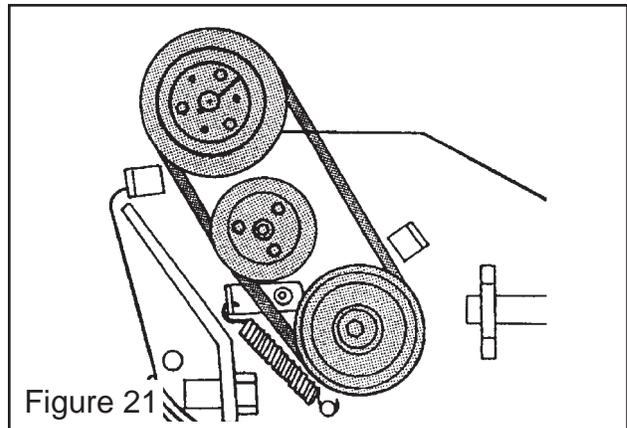

Figure 21
3. Remove fasteners that secure pulley to cutter shaft. (See Figure 21 item 2) Remove pulley and key. (See Figure 21 and item 2)